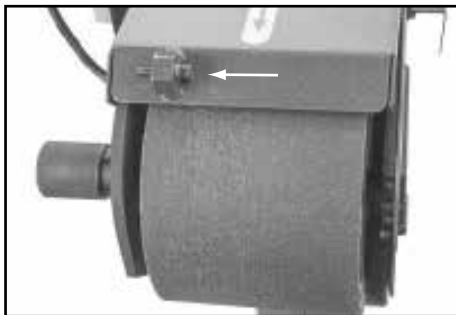

FIG.4
8.3 EYE SHIELD – FIGS.4 - 5
- Remove the cap screw and washer shown in Fig. 4.